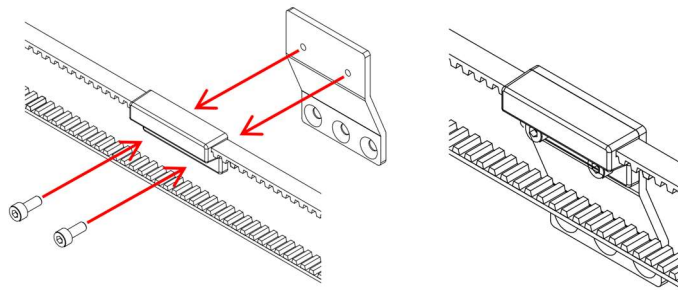

Figure 40: Bolt the top bracket onto the top loop of the belt.
2. Bolt the belt clamp to the top loop of the belt (Figure 40).